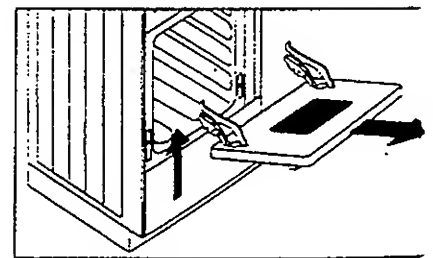

Figure 10
- There is a small ring on each hinge. Pull the ring over the claw-like hook, which is part of the hinge mechanism. Do not forget to do this on both hinges before the next step. (See Figure 10)